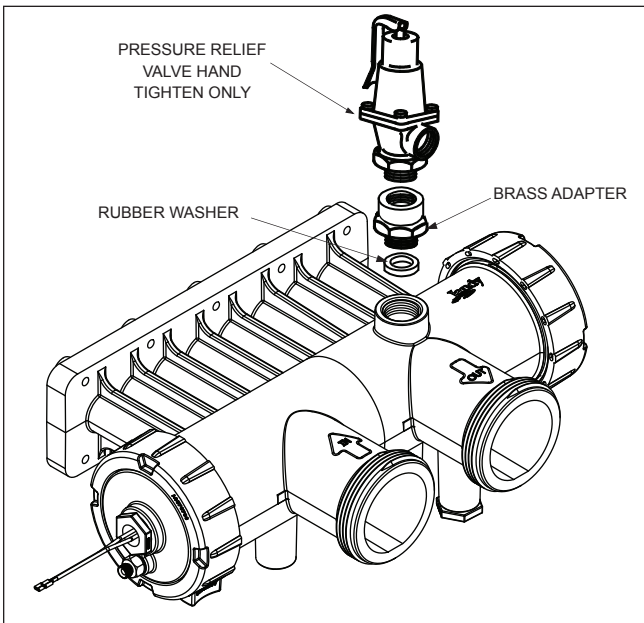

Figure 14. Pressure Relief Valve Installation
6. Install the rubber washer at the bottom of the hole (see Figure 14).